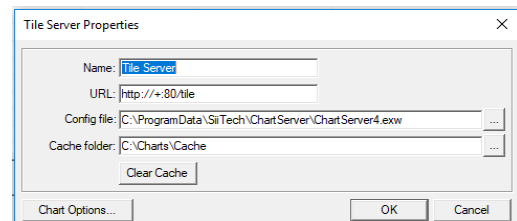

Figure 75: Tile Server Properties
2. Open the ChartServer Software. Click the EDIT menu and select “New Tile Server” (Figure 75).